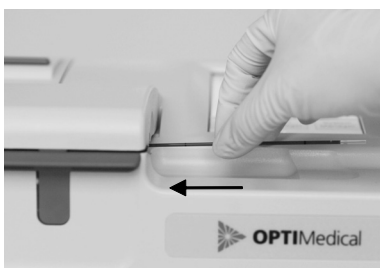

Fig. 5-13 Attach Capillary
- When using capillary tubes, push the tube firmly into the fillport (Fig. 5-13).